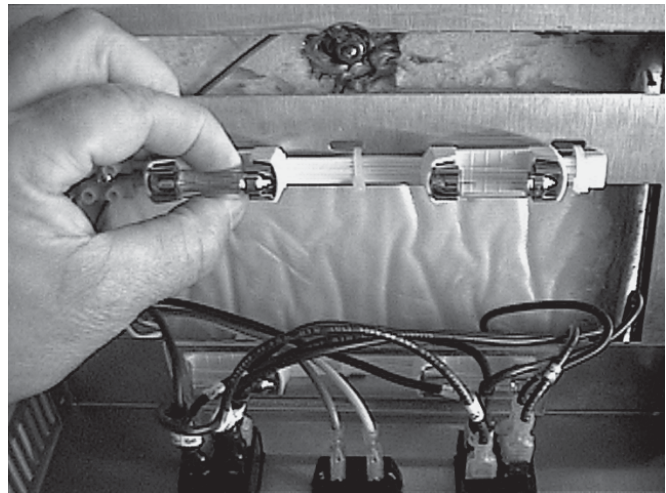

Figure 31. Light Bulb Replacement
3. Grasp faulty bulb and pull out. Figure 31.